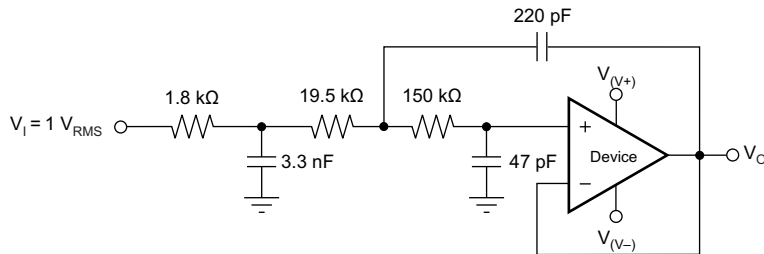

图 37. OPAx355 Configured as a Three-Pole, 20-kHz, Sallen-Key Filter
3. Using a noninverting filter topology, such as the Sallen-Key (see Figure 37).